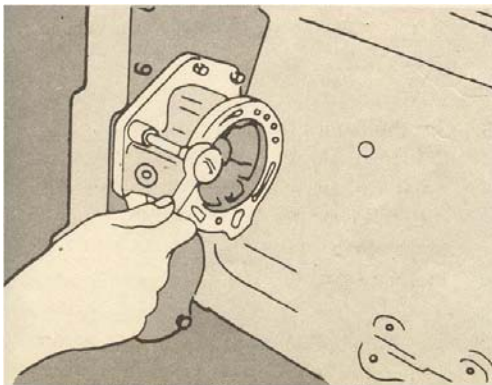

Fig. 14-32, Install the accessory drive
2. The Accessory drive capscrews are installed offer the front housing cover installation. Fig. 14-32.